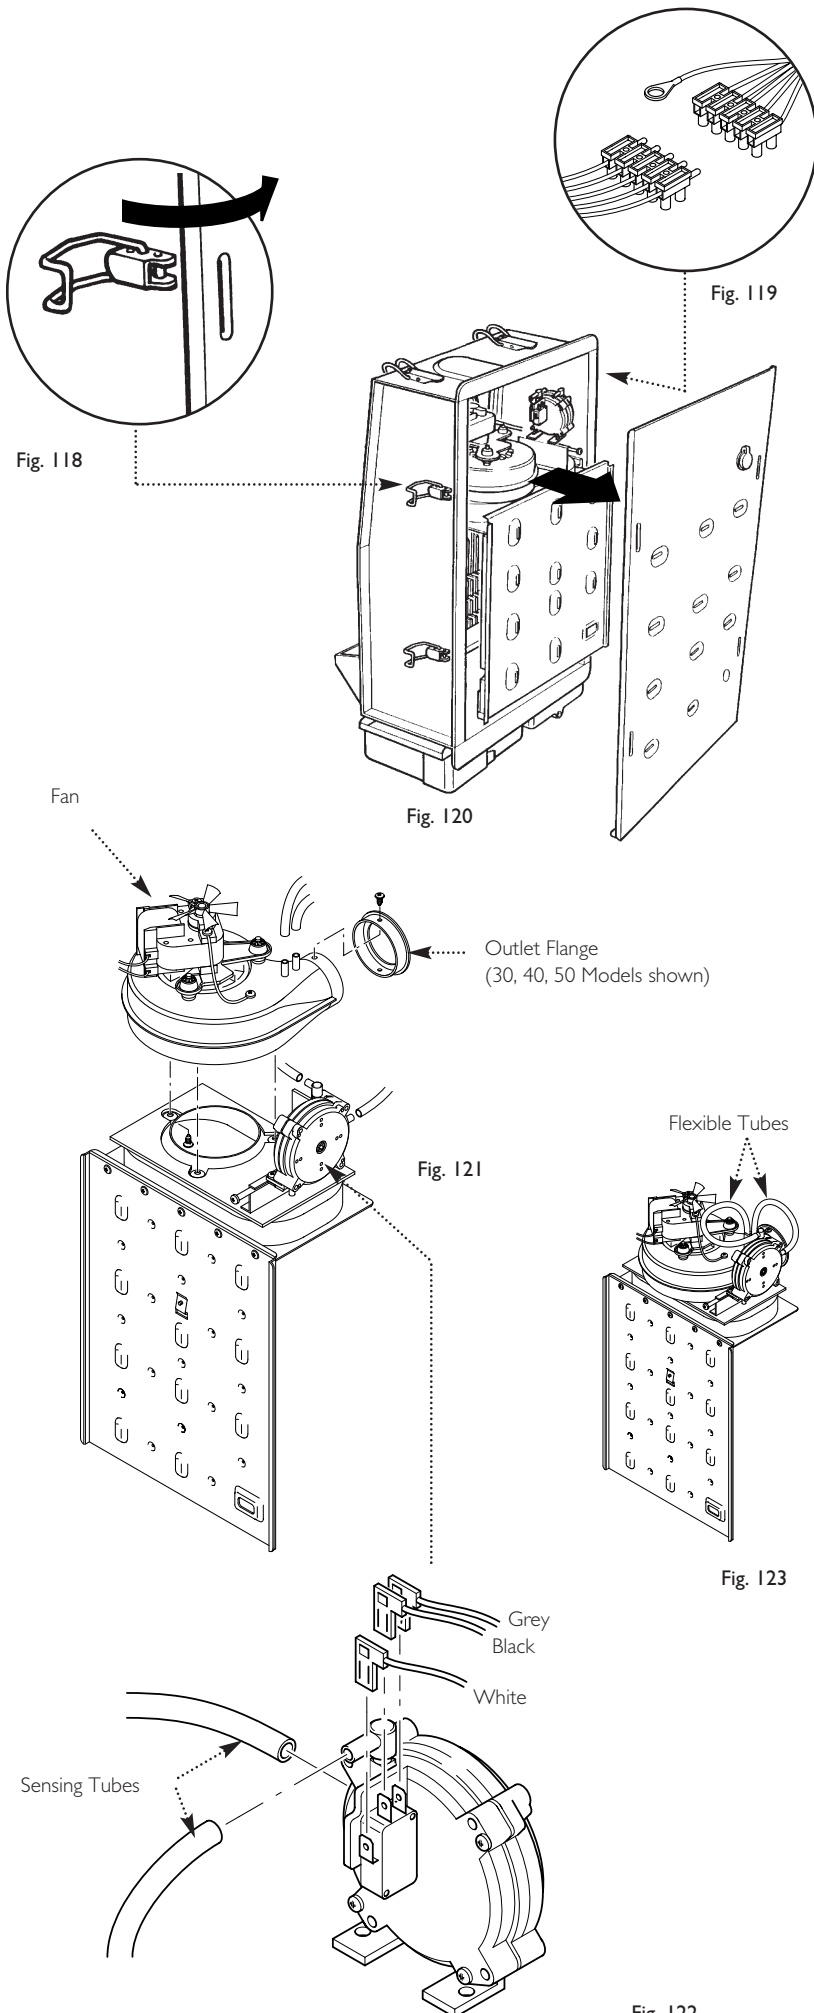

Fig. 122
10.9 Pressure Switch (Fig. 122)